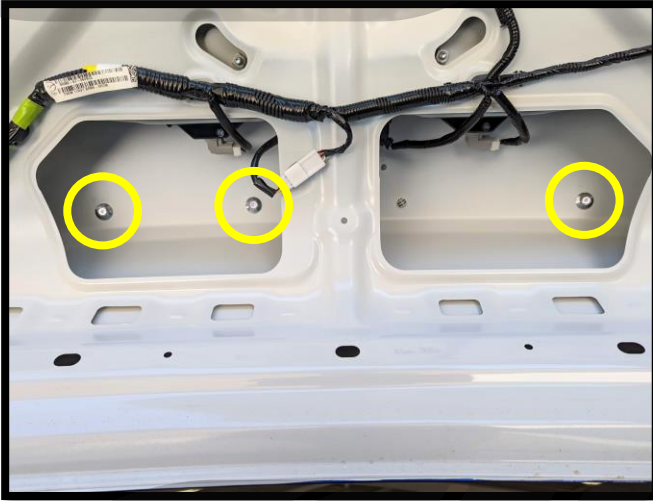

Figure 1b
- d) Remove the three 10mm bolts circled in yellow in **Figure 1b** by using a 10mm socket and ratchet.